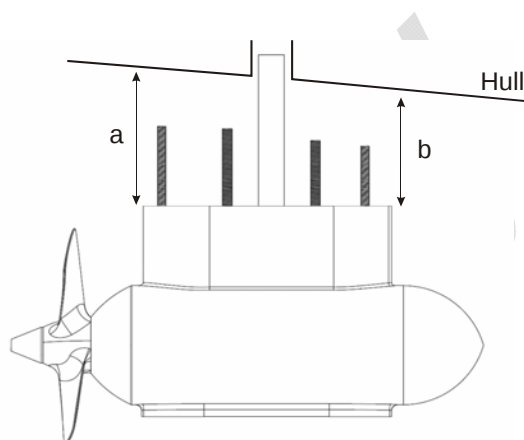

Figure 9: Measuring optimal inclination for rubber flange
2. The angled rubber flange needs to get the proper inclination to ensure most efficient operation of the motor. This efficient operation is achieved when the PodMaster motor is placed horizontally in the water in normal operation. As the hull might have an angle with respect to horizontal at the location the motor is mounted, the inclination of the rubber flange needs to be adjusted to the hull. Figure 9 shows how the proper inclination of the flange can be determined:
- Measure dimensions *a* and *b* as indicated in Figure 9 (the rubber flange is taken off during this measurement)